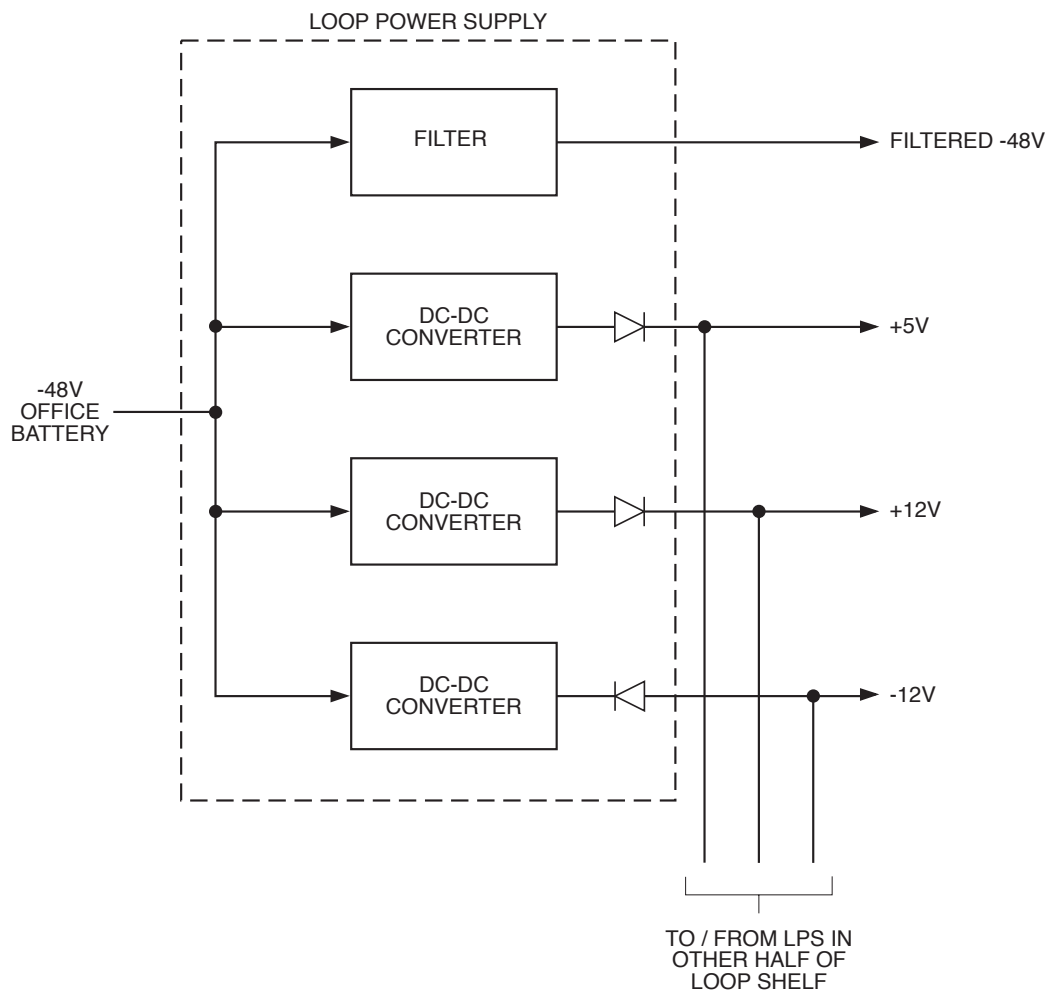

Figure 1. LPS Card Block Diagram
2.01 Figure 1 is a block diagram of the LPS card. The LPS card in the lower half of the Loop Shelf is